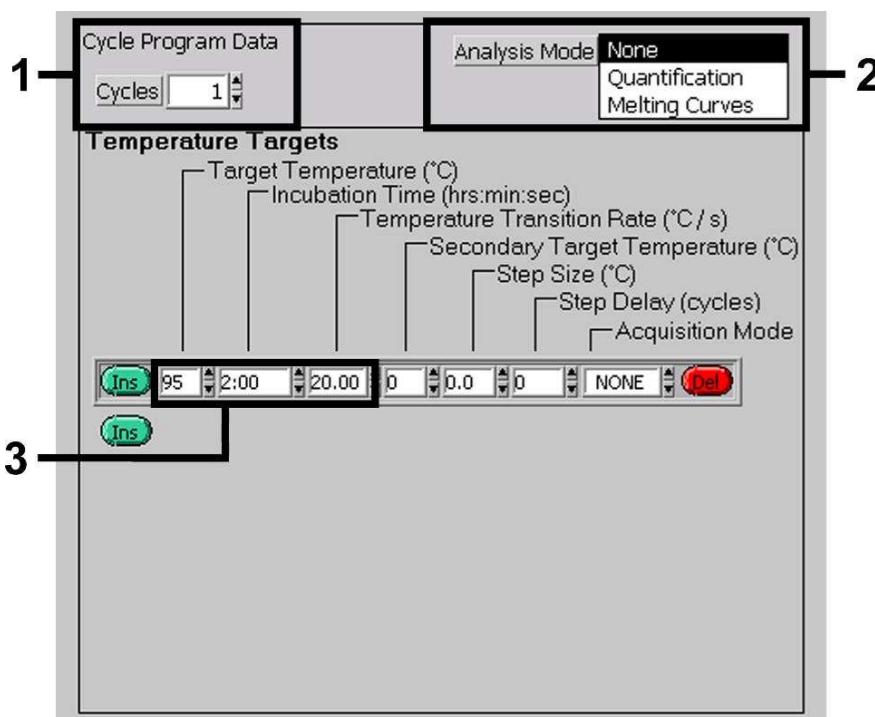

Fig. 2: Initial Activation of the Hot Start Enzyme.
For the detection of the genetic variants in the TPMT gene, create a temperature profile on your *LightCycler*® Instrument according to the following five steps (see Fig. 2 - 6).
- A. Initial Activation of the Hot Start Enzyme Fig. 2